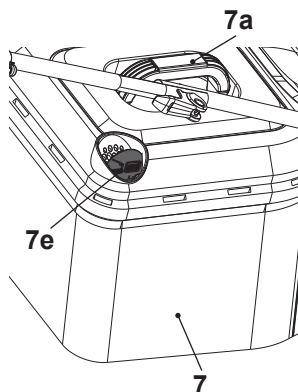

Fig. 15
1. When the hatch (7e) is opened the grass catcher has sufficient volume left to collect grass (Fig. 15).